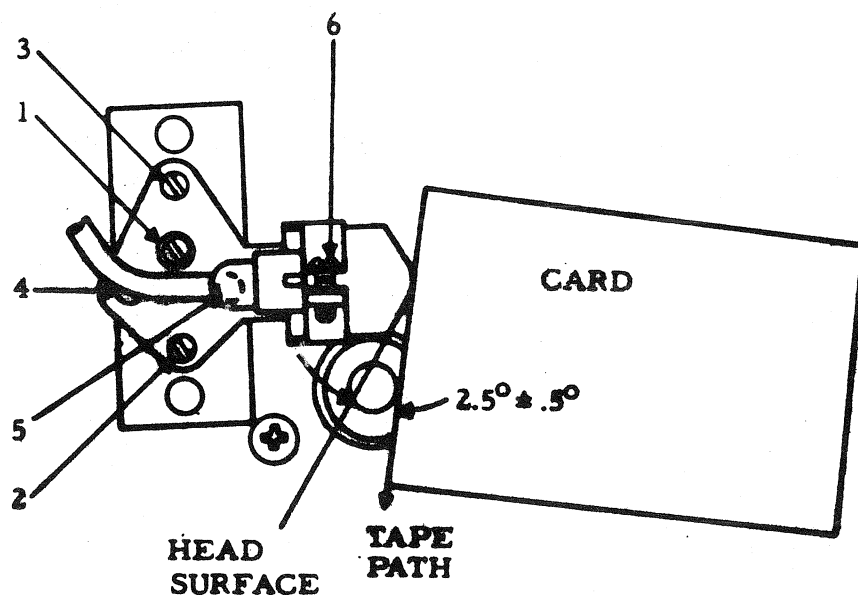

Figure 4-1 Tape Head Adjustment
- 4.10 TAPE HEAD (Refer to Figures 4-1 and 5-2)
- 4.11 Remove cover and lay unit on its side to expose optical assembly. Remove projector lamp and drill out pop rivets (Item 22, Figure 5-2 with a No. 30 drill, and lift optical assembly from chassis. Loosen tape head clamp screw (Item 6, Figure 4-1) and carefully pull tape head out of clamp toward rear of unit. With tape head held firmly in fingers, carefully pull black plastic connector from tape head, noting that notch on connector faces outward.
With a piece of soft plastic straight edge or business card, placed as indicated in Figure 4-1, move tape head until required angle, $2.5^{\circ} \pm 0.5^{\circ}$, is attained.
4.12 Azimuth Adjustment (Refer to Figure 4-1).